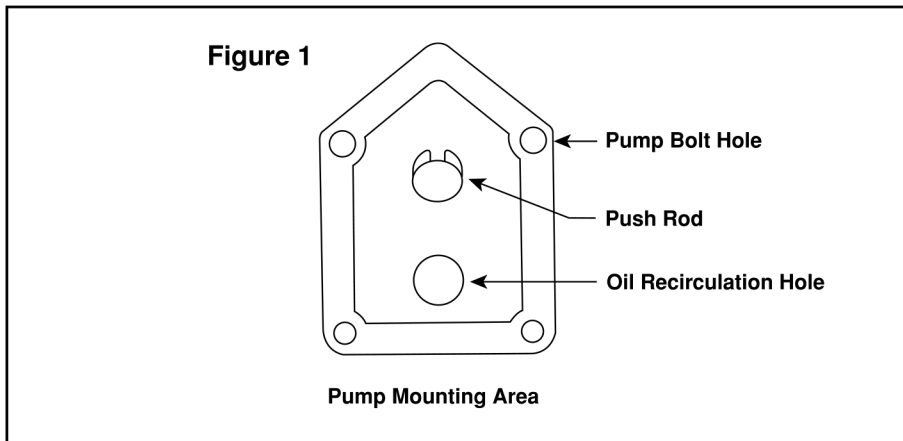

Figure 2
2. Install push rod, new gasket, mounting plate and new fuel pump. Make sure the pump lever contacts the end of the push rod and remains in that position during installation as shown in Figure 2. If the push rod is positioned incorrectly, tightening the mounting bolts could bend the push rod or damage the pump lever so the pump will not function.